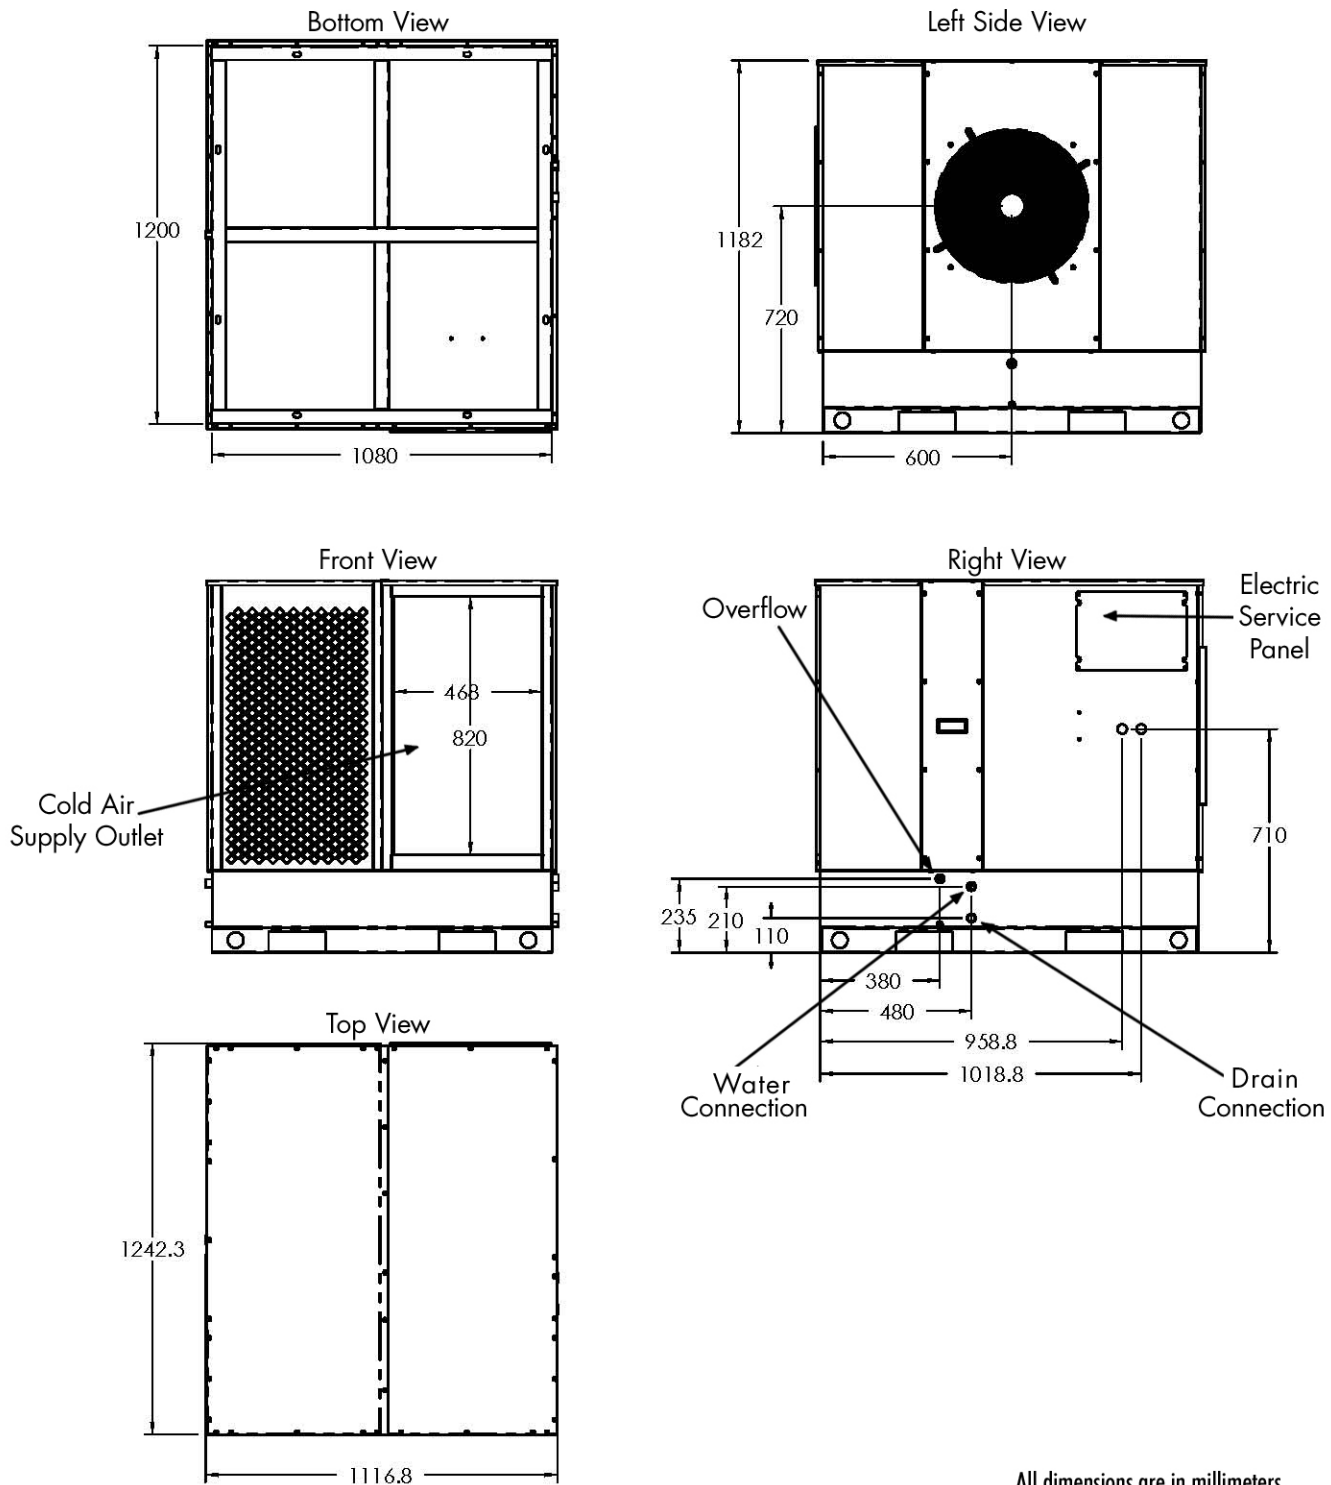

Figure 1. Critical Dimensions
3. See figure 1 for critical dimensions.